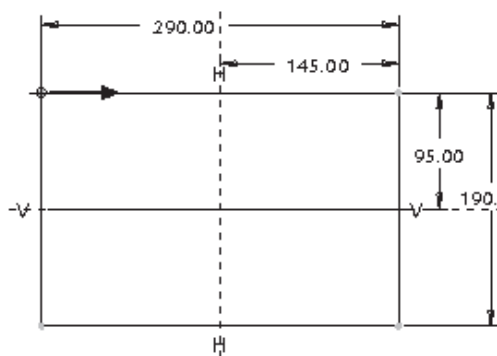
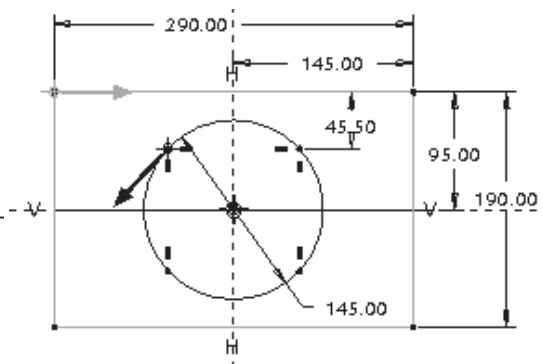

Figure 7-110 First rectangular section with dimensions
Figure 7-111 The two completed sections
- b. Create the sketch for the first section of the blend feature, refer to Figure 7-110.
- c. Create the sketch for the second section of the blend feature, refer to Figure 7-111.
1. Draw the sketch of the rectangular section and then add constraints and dimensions to it, as shown in Figure 7-110.
1. Draw the sketch of the circular section, refer to Figure 7-110. Modify the diameter of the circle to 145.
2. Select the circle at four points, as shown in Figure 7-110.
4. Modify the vertical dimension of the upper left division point, as shown in Figure 7-110. After the circular section is completed, the two sections with dimensions should look similar to the sections shown in Figure 7-111.
In Figure 7-111, note the direction of the start points shown by the arrows. These are important to avoid a twisted feature.